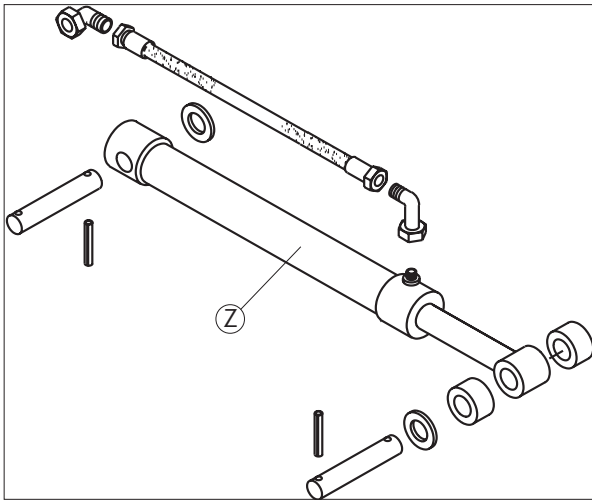
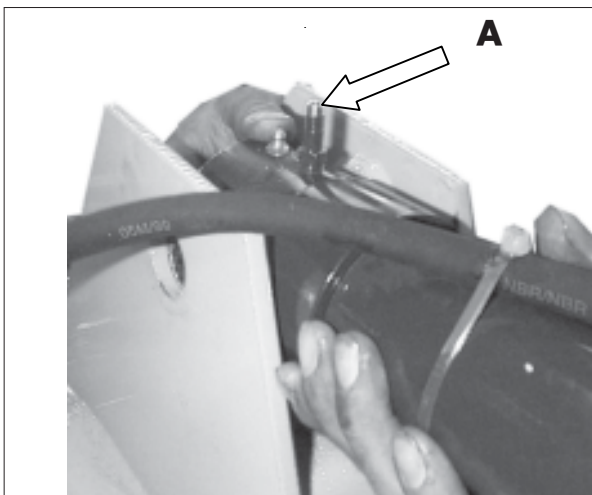

Fig. 3-12
Fig. 3-13
Pull hydraulic cylinder (Z) apart (if necessary, actuate valve A so that air can flow into the cylinder (see fig. 3-13) and hook the cylinder into the brackets on the lifting arm (fig. 3-12). Use the content of bag L for the above mounting.
Then hook hydraulic cylinder (Z) into the brackets on the frame (fig. 3-12). Use the content of bag M.